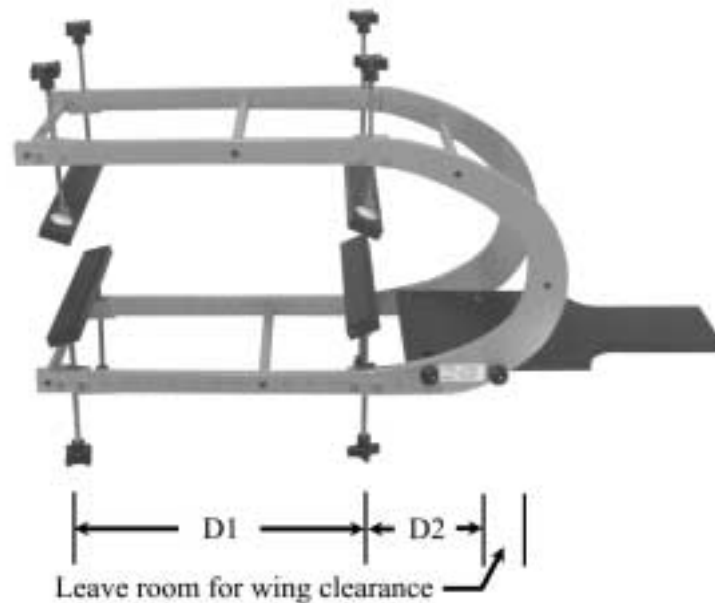

Figure 3-6. Align clamps with distance between leading edge and rivet lines.
- 3.9 Assemble the CA-320C with the four clamps matching as closely as possible the distances found to the two rivet lines or strengthened areas of the wing. See figure 3-6 below: